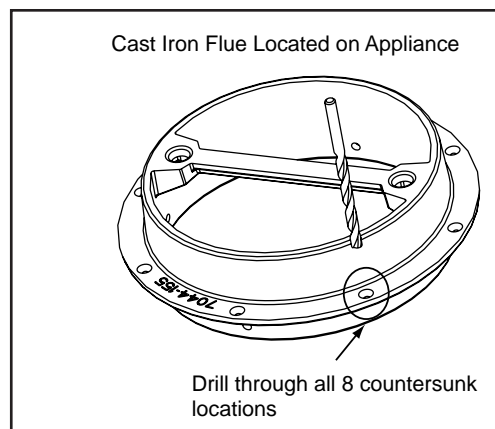

Figure 39.2
1. Remove the cast iron flue collar from the appliance and flip it upside down. Using the larger #7 drill bit supplied, drill through all 8 countersunk locations. **Figure 39.2**.